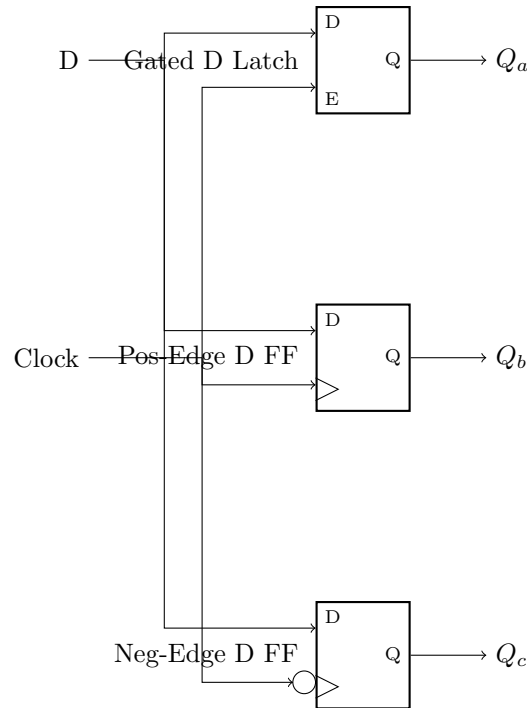

Figure 7: Circuit and waveforms for Part IV.
Figure 7 shows a circuit with three different storage elements: a gated D latch, a positive-edge triggered D flip-flop, and a negative-edge triggered D flip-flop.
7. Create a Vector Waveform File (.vwf) that specifies the inputs and outputs of the circuit. Draw the inputs D and Clock as indicated in Figure 7. Use functional simulation to obtain the three output signals. Observe the different behavior of the three storage elements.